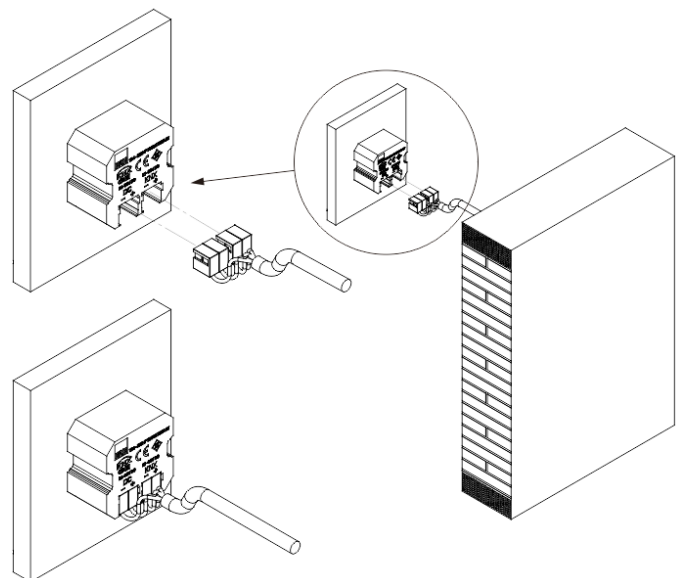

Fig. 2
2. Remove the connection terminal on the device and connect it correctly according to the wiring instructions. After wiring, install the terminal to the corresponding position, then the wiring installation is finished as shown in Fig.2.